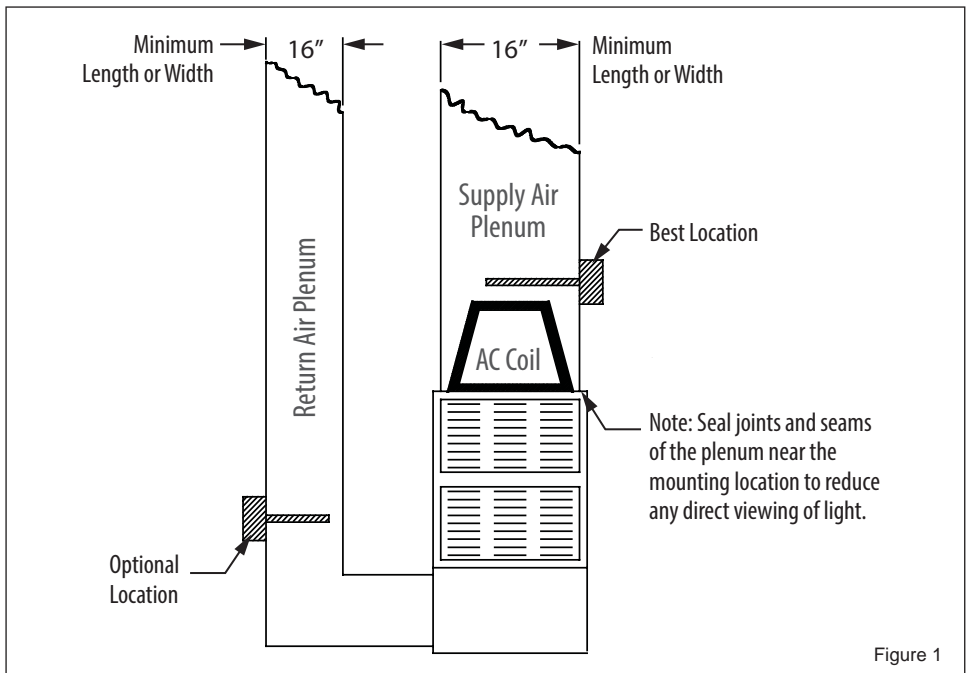

Figure 1
- CX-Aire may be installed in supply air plenum, return air plenum or above AC coil (Figure 1).
- For optimum "cleaning" effect on the AC coil, mount the unit in the supply plenum as close as possible to the AC coil (Figure 1).